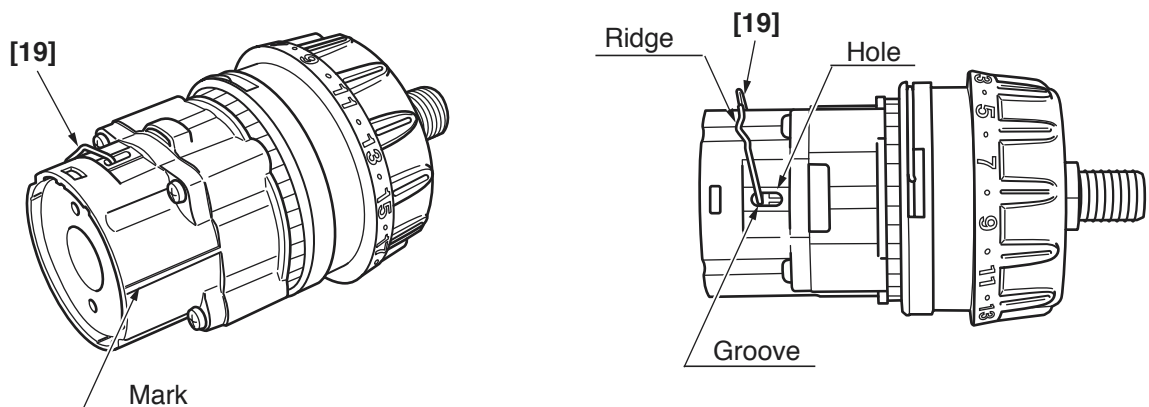

Fig. 16
- With the ridge at the Shift Arm [19] facing the Motor [28] side, first install them on the unmarked side of the assembly reassembled in step (c). Then insert the projections on the Shift Arm [19] into the holes in the Rear Case [17] and make sure that the projections are fitted into the grooves in the Slide Ring Gear [20] mounted within the Rear Case [17]. (See Fig. 16.)